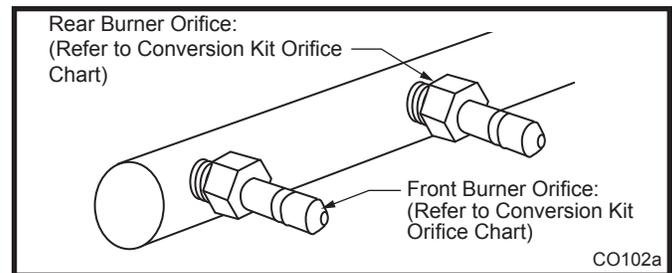

Fig. 70 Burner orifice replacement.
- Remove burner orifice from manifold assembly using 3/8" wrench. (Fig. 70)
- 2. Remove burner orifice from manifold assembly using 3/8" wrench. (Fig. 70)